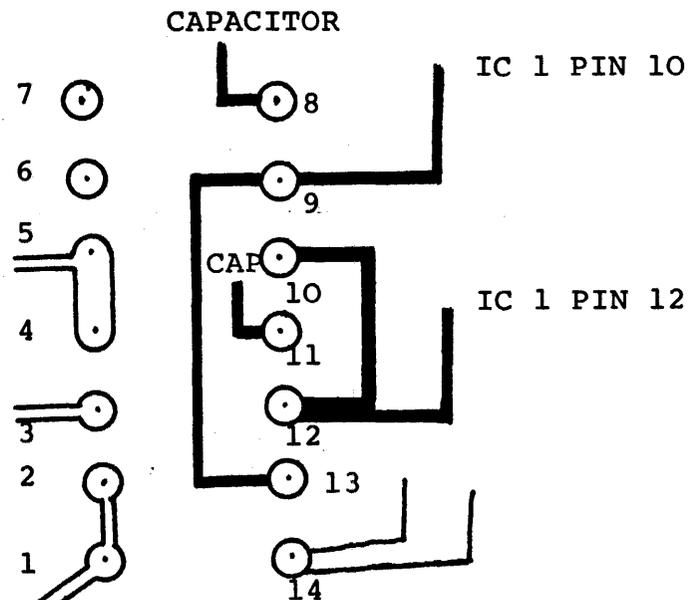

FIGURE 3
- IC20 pin 10 to IC20 Pin 12 (Refer to Figure 3)
14. Install the following jumpers (Refer to Figure 3)